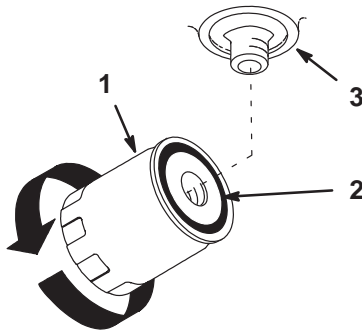

Figure 41
4. Apply a thin coat hydro fluid to the rubber gasket on the replacement filter (Fig. 41).
7. When fluid overflows filter turn the oil filter clockwise until the rubber gasket contacts the filter adapter, then tighten the filter an additional 1/2 turn (Fig. 41).